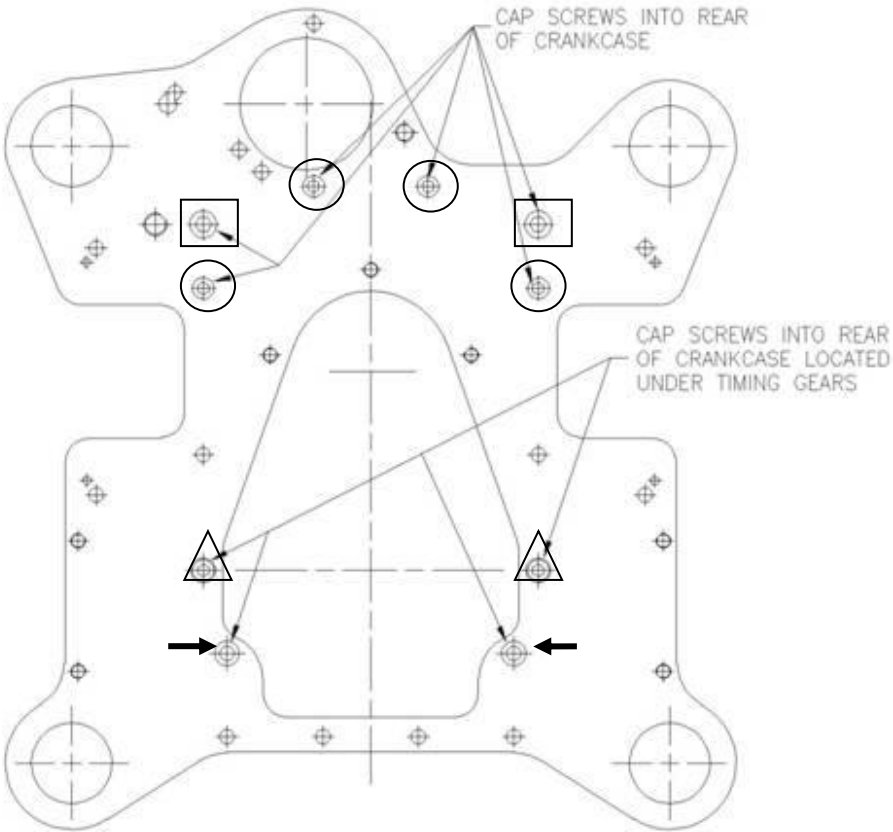

Figure 174 – Engine Mount Plate Screw Locations
- Tighten the screws holding the plate to the crankcases. Note that different sized screws are used on the plate - Figure 174 refers.